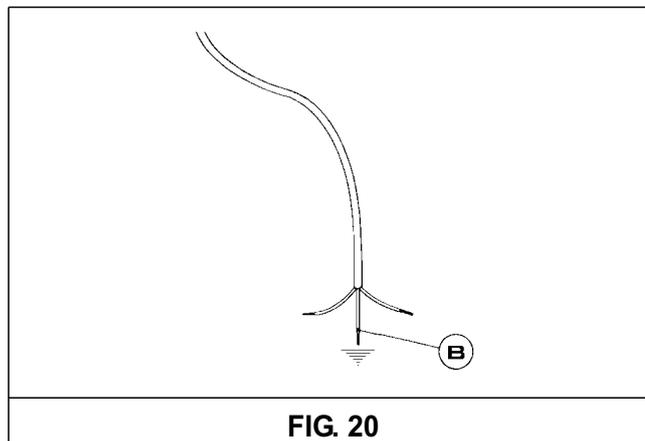

FIG. 20
If the power supply cable is replaced, the installer should leave the ground wire (B) longer than the phase conductors (fig. 20) and comply with the recommendations given in paragraph 8.